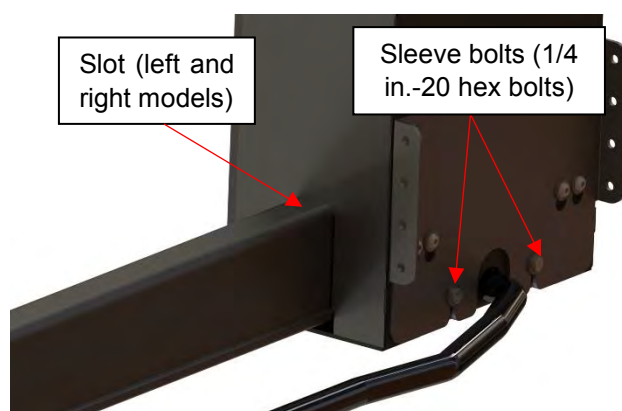

Figure 97
- ♦ When sliding the sleeves over the jacks, ensure the slot at the bottom of the outer sleeve is going to slide over the U-frame that covers the drive shaft. There are right and left models for sleeves (Figure 97)
- 17) Tighten 1/4 in.-20 hexagonal bolts at the bottom of all the sleeves bases. (7/16 (11 mm) socket wrench) ensure that the washer is outside of the outer sleeve. This will ensure the sleeve is held correctly (Figure 97). Repeat this step for all four jacks.